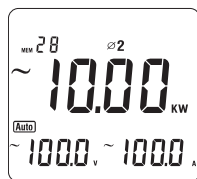

Figure 9
- After sum up the current power measurement value of the first phase, then press **SELECT** to choose the second phase $\Phi 2$, as figure 9.
- After the sum up the current power measurement value of the first phase, then press **SELECT** to choose the second phase $\varnothing 2$, as figure 9.